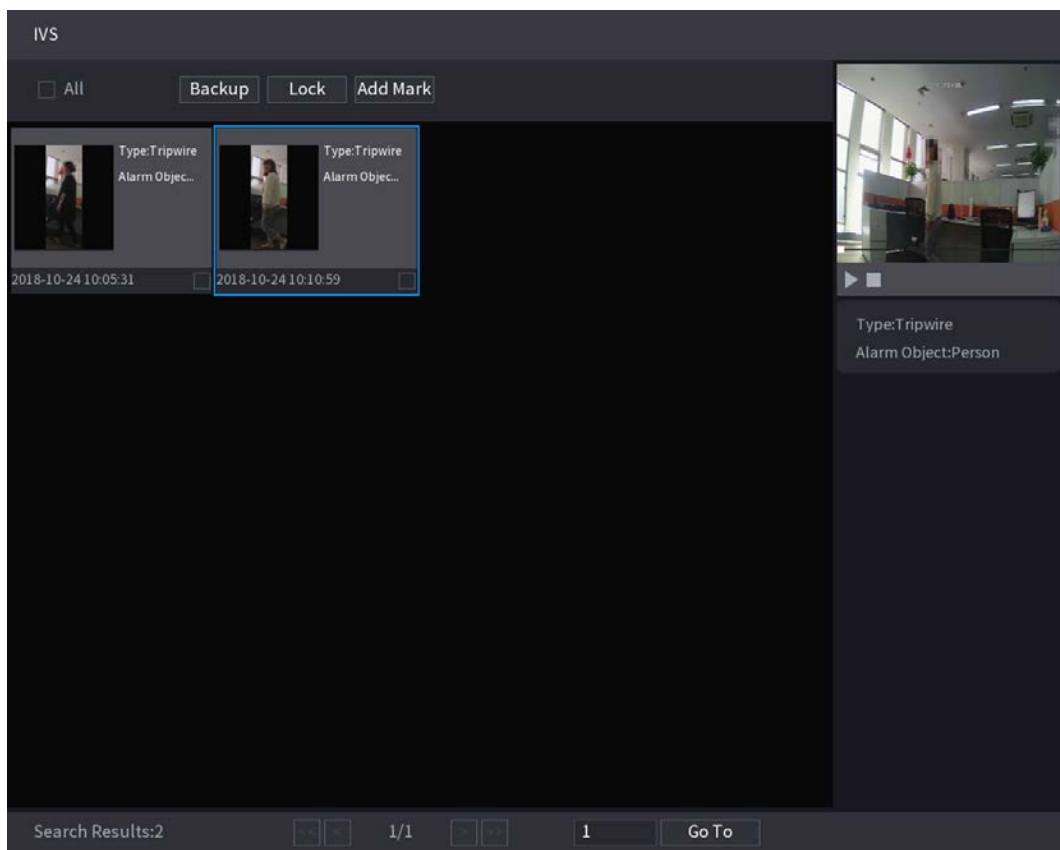

Figure 5-186
Step 4 Click the picture that you want to play back. See Figure 5-186.